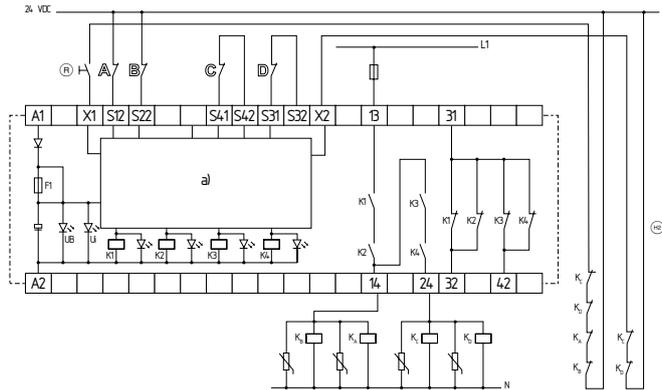

Fig. 2: SRB202CS, 202CS/T
Dual-channel control, shown for an emergency stop circuit; with two contacts A and B and a guard door monitor with two contacts C and D, where at least one is a positive break contact; with external reset button (R) (related on the switch-off level 1) (see Fig. 2)
- (HB) = Feedback circuit